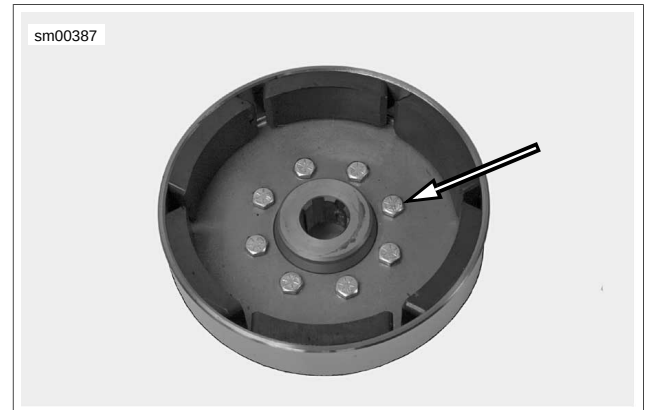

Figure 7-25. Rotor Assembly
1. See Figure 7-25. Remove the eight fasteners which secure alternator rotor to engine sprocket.